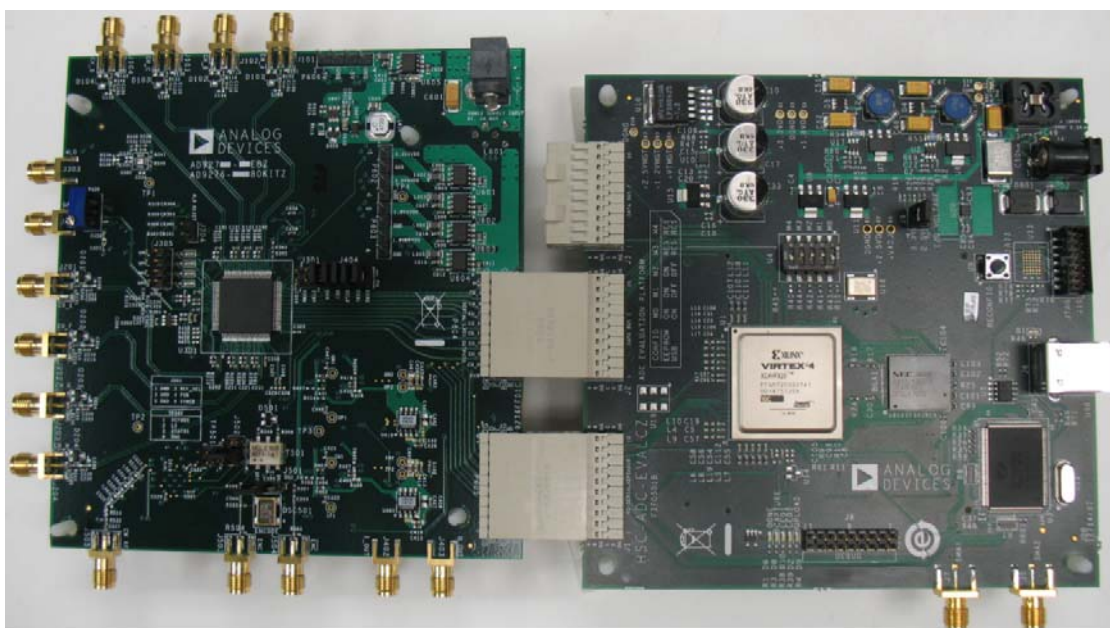
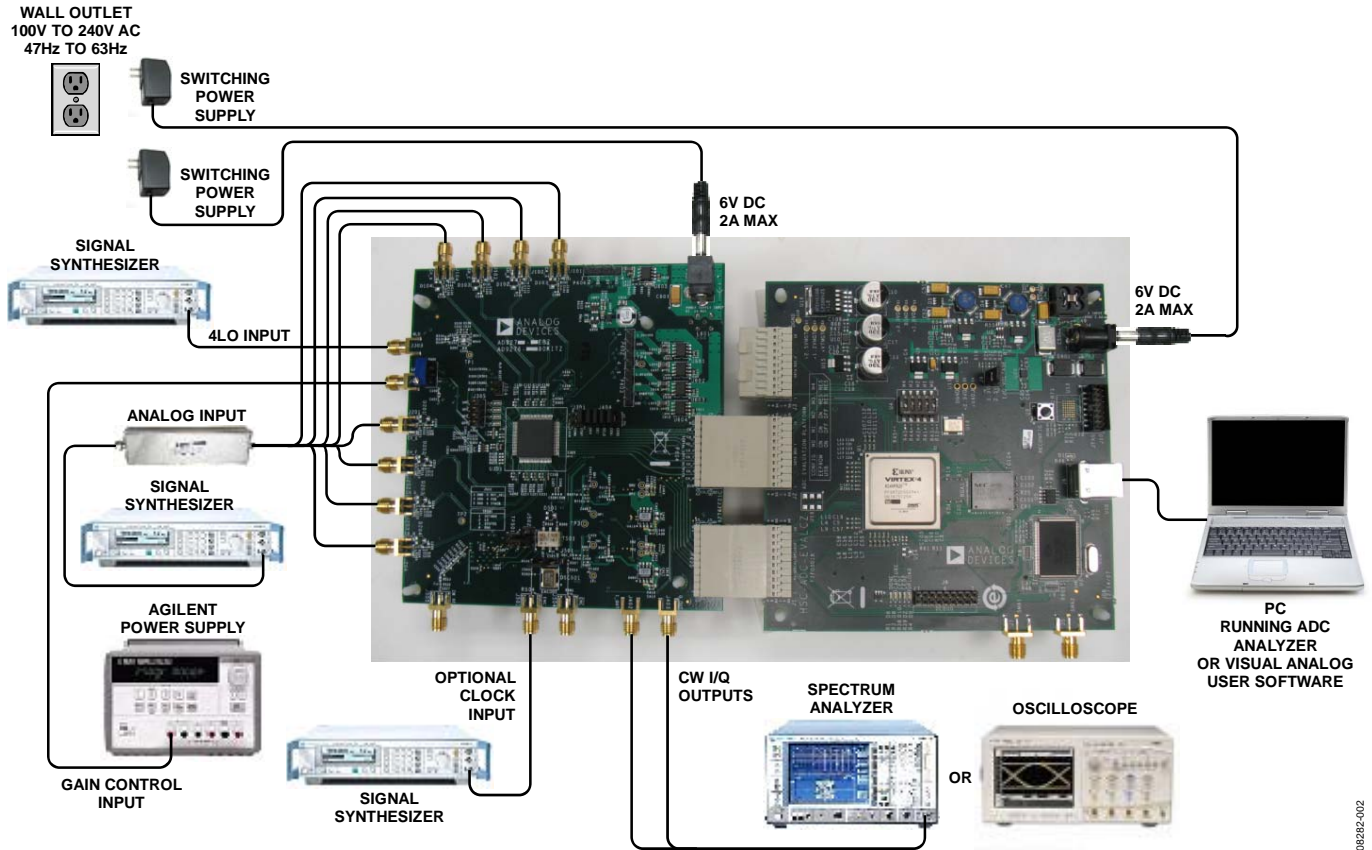

Figure 1. AD9276-65EBZ/AD9276-80KITZ/AD9277-50EBZ Evaluation Board and HSC-ADC-EVALCZ Data Capture Board
Figure 2. Evaluation Board Connection
The evaluation board for the AD9276 and AD9277 provides all of the support circuitry required to operate the AD9276 and AD9277 in their various modes and configurations. Figure 2 shows the typical bench characterization setup used to evaluate the performance of the AD9276 and AD9277. It is critical that the signal sources used for the analog input and clock have very low phase noise (<1 ps rms jitter) to realize the optimum performance of the signal chain. Proper filtering of the analog input signal to remove harmonics and lower the integrated or broadband noise at the input is necessary to achieve the specified noise performance (see the AD9276 or AD9277 data sheet).
If an alternative data capture method to the setup described in Figure 2 is used, optional receiver terminations, R604 to R613, can be installed next to the high-speed backplane connector, P604.
1. Connect the evaluation board and the HSC-ADC-EVALCZ as shown in Figure 1 and Figure 2.